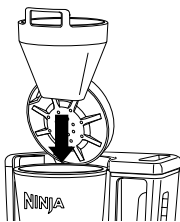

Fig. 3
- 3 Place the filter holder in the brew basket (Fig. 3). Then place the permanent filter or a #4 paper filter in the filter holder.